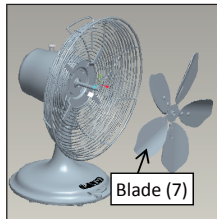

Figure.3
3. Attach the Back Grill(6) to the Motor (5) using the 4 Grill Mount Screws. Figure 3. 1 screw will have a star washer on it, for grounding purposes. The other 3 screws will not have a washer.